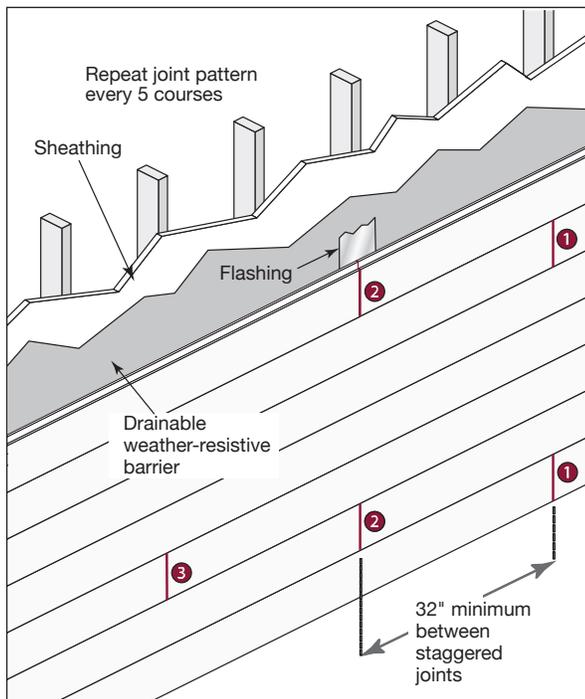

Fig. 19
- For walls longer than 16', stagger joints to create the most aesthetically pleasing design/layout (**Fig. 19**)
- Always stagger your butt joints over stud locations (**Fig. 19**)